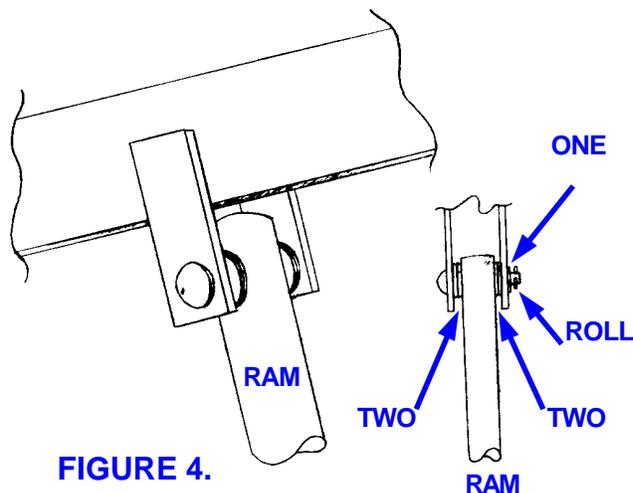

FIGURE 4.
**Step #5:** Next, connect the jack to the overhead assembly: Align ram eye with holes in boom clevis plates and insert a greased clevis pin with four 5/8" washers. Place another washer on outer end of clevis pin and drive a 3/16" roll pin into the hole at the end of clevis pin. See figure 4.